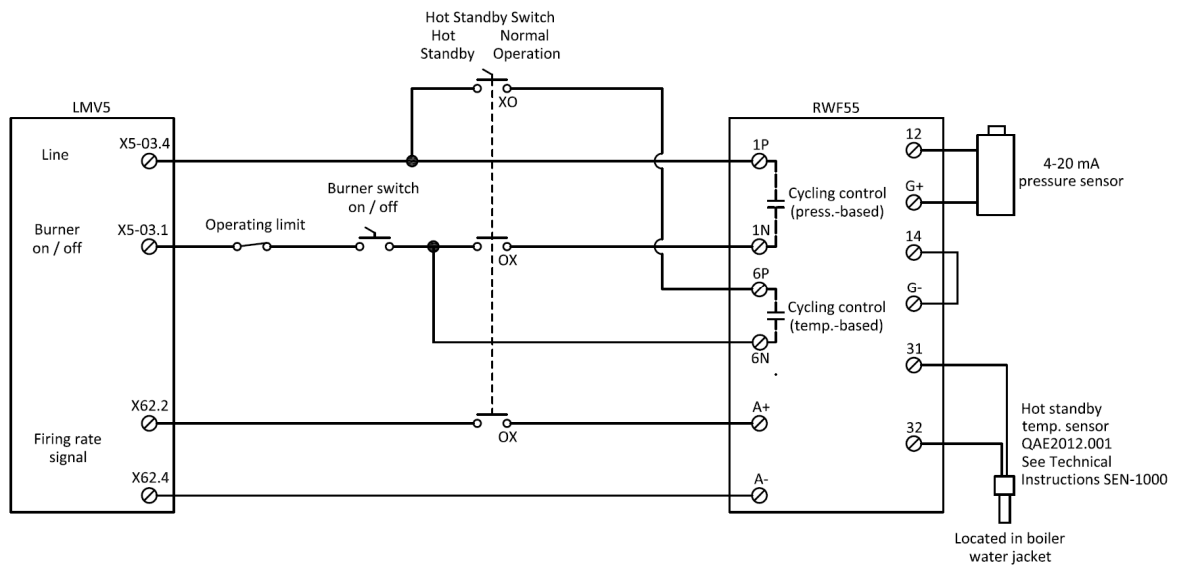

Figure 3: LMV5 to RWF55 Hot Standby and Load Control Wiring
1. Wire the RWF55 to the LMV5 as shown in Figure 3.